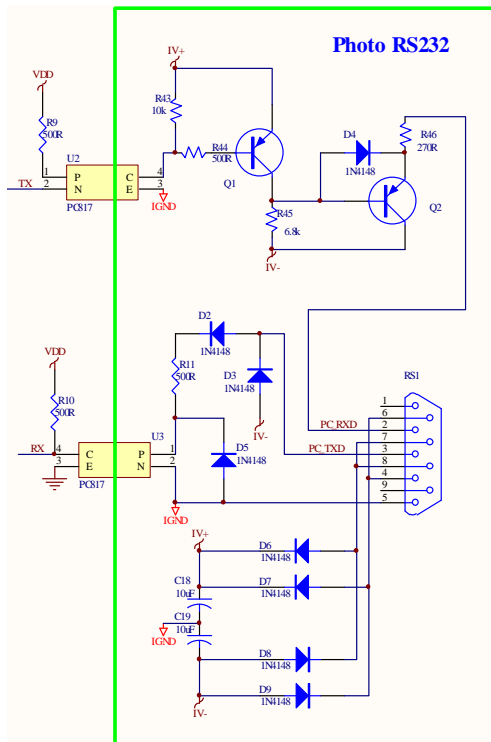

Figure 7
- ◆ RS1 : UART communication port (RS232). Commonly use 9-PIN female header, as shown in Figure 7.